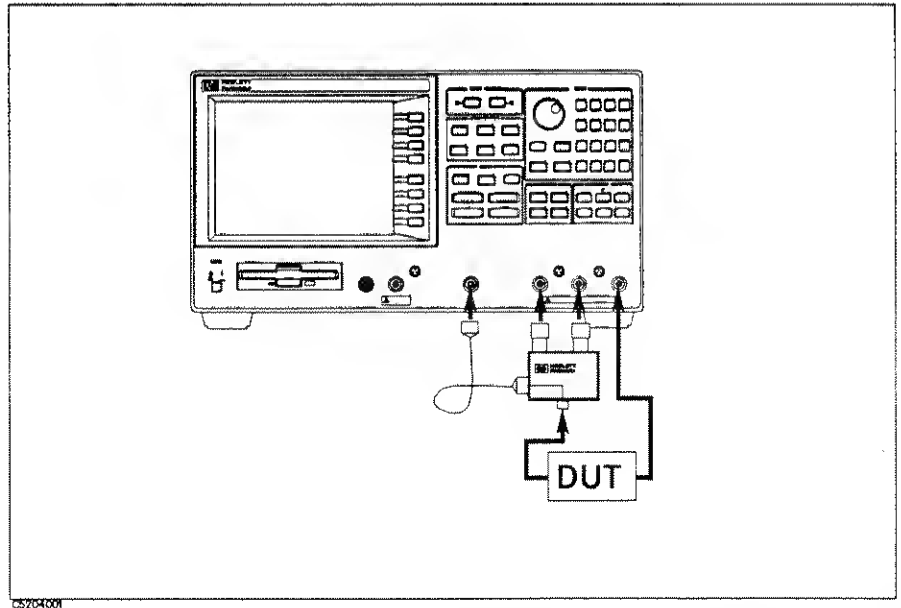
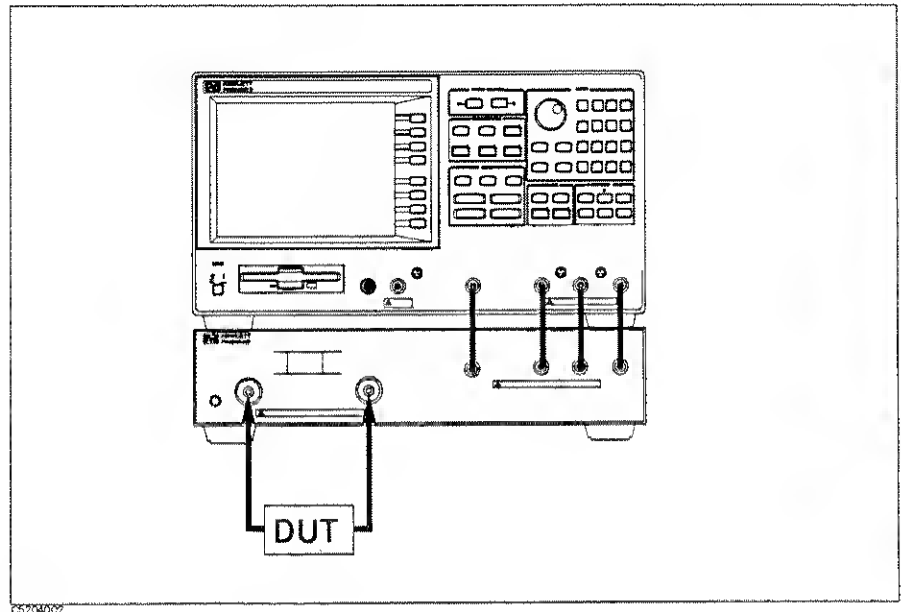

Figure 4-1. Using the Transmission/Reflection Test Set
Figure 4-2. Using the S-Parameter Test Set
- Connect the device under test (DUT) as shown in Figure 4-1 or Figure 4-2.